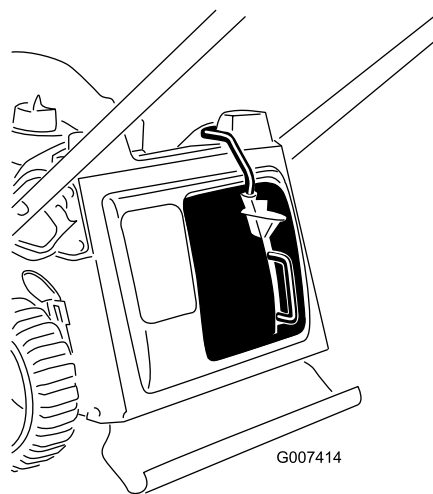

Figure 12
3. Release the button on the lever and ensure that the top of the lever lies fully in the switch channel (Figure 12).